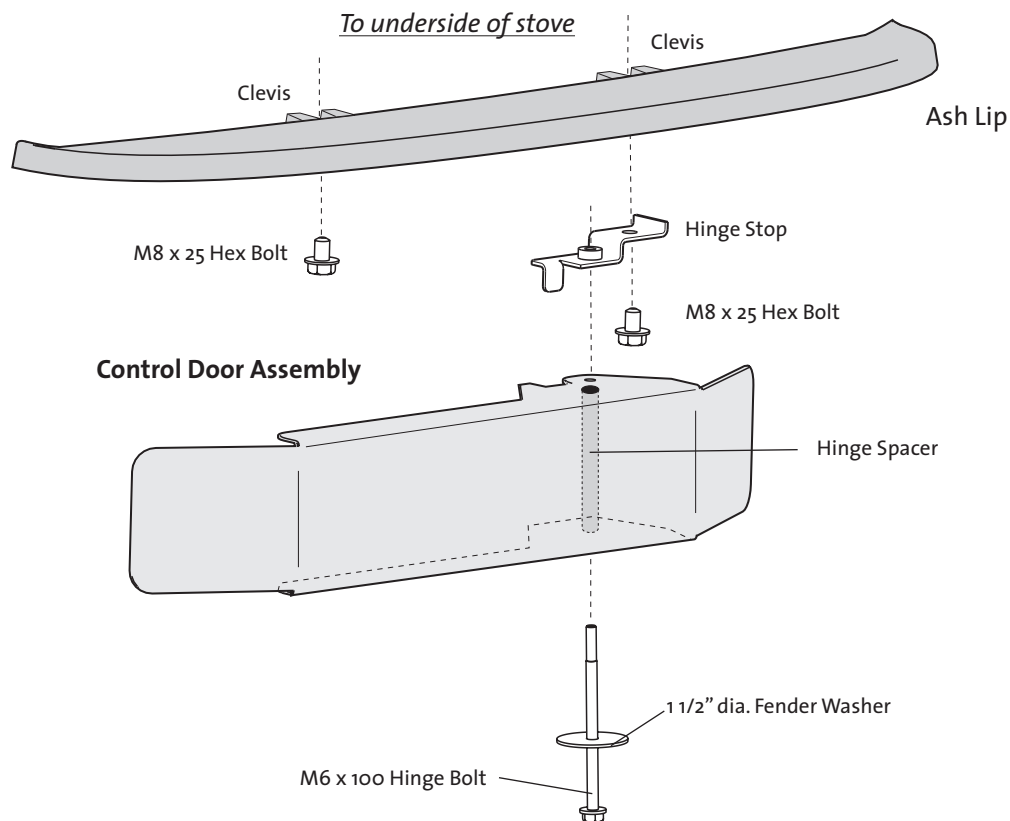

Figure 41.
The Control Door assembly attaches to the stove bottom with the right side Ash Lip bolt. Follow the steps and fig. 41 below to attach **first the Ash Lip, and then the Control Door assembly** to the stove.
2. Using the other M8 x 25 hex bolt, attach the Hinge Stop of the Control Door assembly to the right Ash Lip boss, oriented as shown in fig. 41. Tighten the bolts with the wrench.